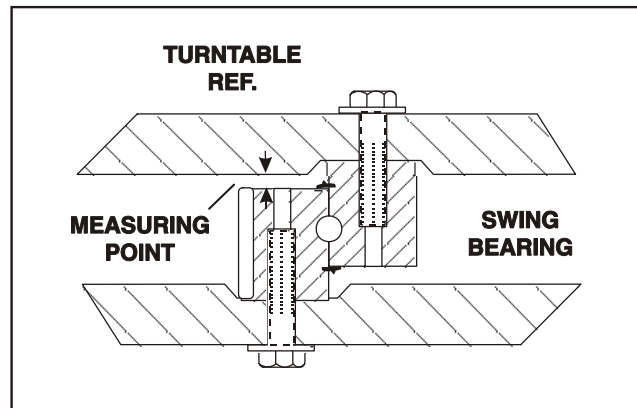

Figure 3-14. Swing Bearing Tolerance Measuring Point
2. At the same point, with the boom positioned over the side of the machine, the Upper Boom fully elevated and the Mid/Lower Boom fully elevated, (See Figure 3-13.) using a magnetic base dial indicator, measure and record the distance between the swing bearing and turntable (See Figure 3-14.).